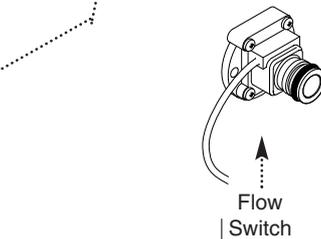

Fig. 71
5. Remove the screws securing the heat exchanger manifold and remove the manifold (Fig. 71).